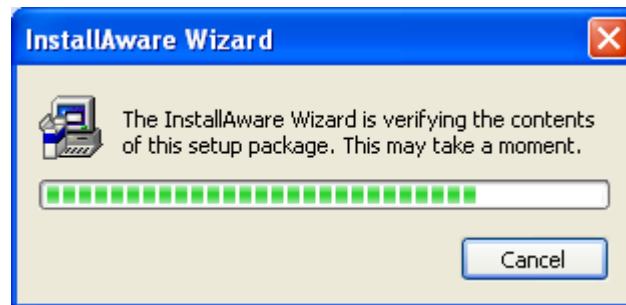

Figure 66 - InstallAware Wizard Verification Window
2. If the MatrikonOPC InstallAware screen does not automatically appear, double-click the installation .exe file. The **MatrikonOPC Server – InstallAware Wizard** verifies its contents (Figure 66).